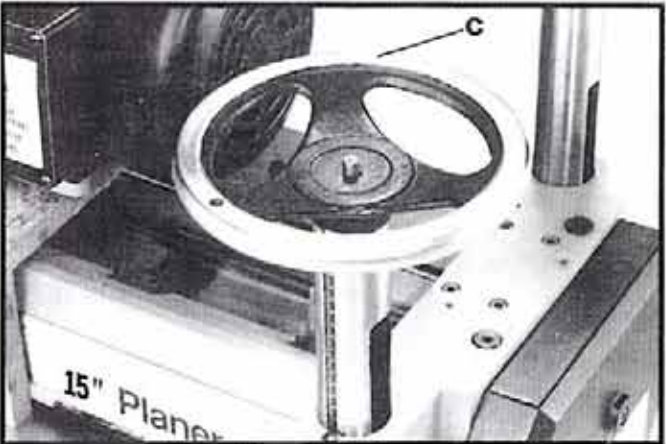

Fig. 6
2. Assemble handwheel (C) Fig.6, to raising and lowering shaft as shown. Make sure key, which was assembled to shaft in **STEP 1**, is engaged with keyway in hub of handwheel (C).